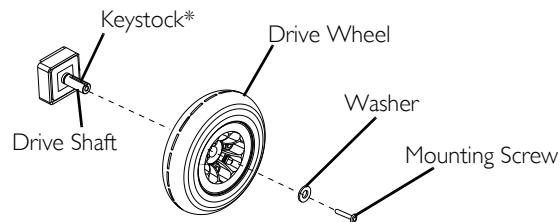

FIGURE 9.1 Removing/Installing the Drive Wheels
For this procedure, refer to FIGURE 9.1 on page 35.
1. Place keystock* in cutout on drive shaft as shown in FIGURE 9.1.